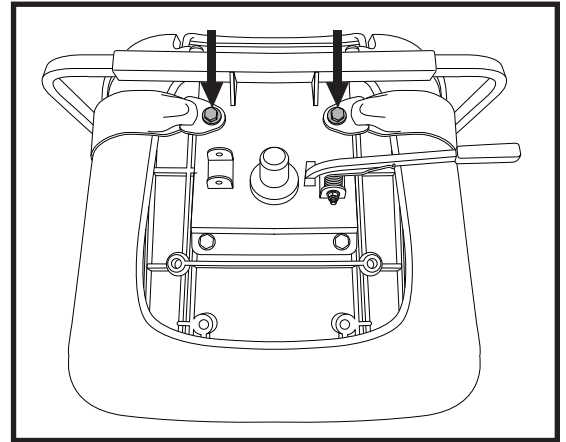

Figure 28. Positioning Belt Bolts
2. Place the seat upside down so that you can see the bottom of the seat base. **See figure 28.**